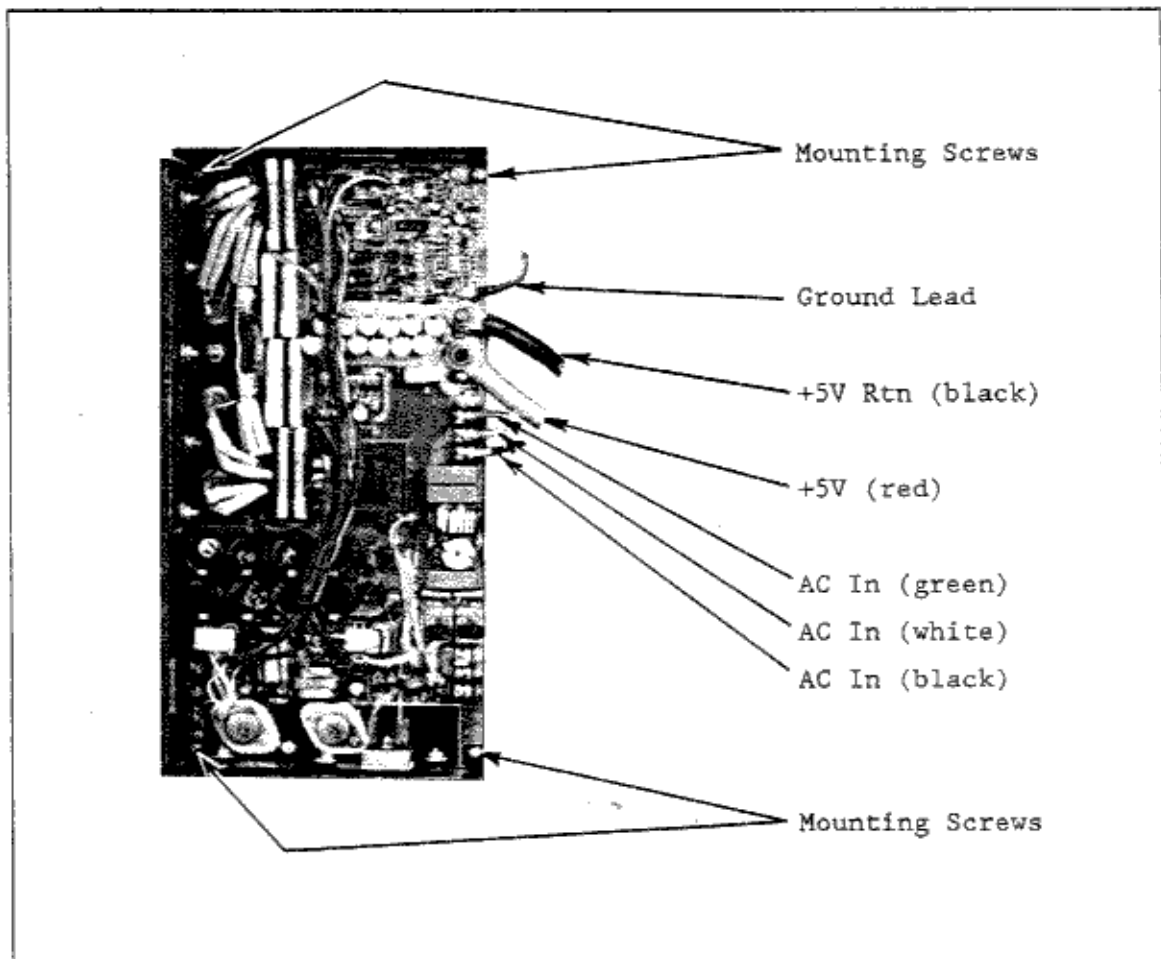

FIGURE 5-3 +5 VOLT POWER SUPPLY
2. Referring to Figure 5-3, locate and disconnect three input leads (black, white, green), two +5V output leads (red, black), and one ground lead (green) from the supply.